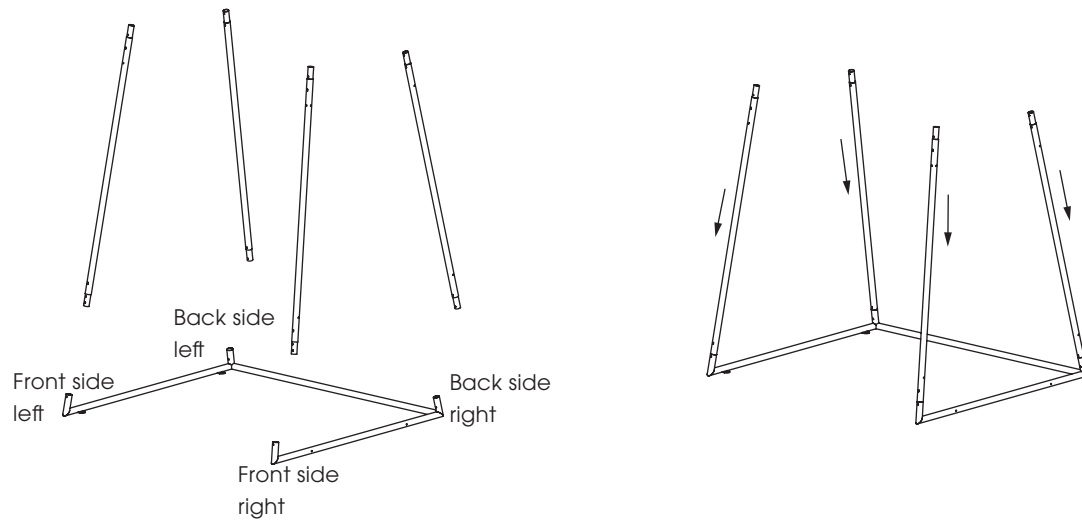

Fig. 1
2. Insert the struts into the respective mounting brackets on the base frame. Pay attention to the marking (see fig. 1 & 2).